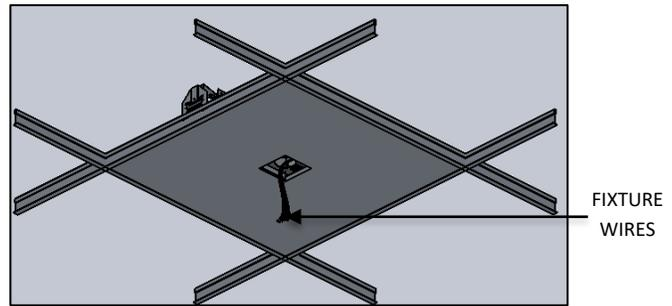

FIG. 21- ASSEMBLED VIEW SHOWING RECESSED J-BOX TO THE CEILING
**CAUTION: Make sure FIXTURE WIRES from DRIVER are capped while waiting to install fixture as shown in FIG. 21.**